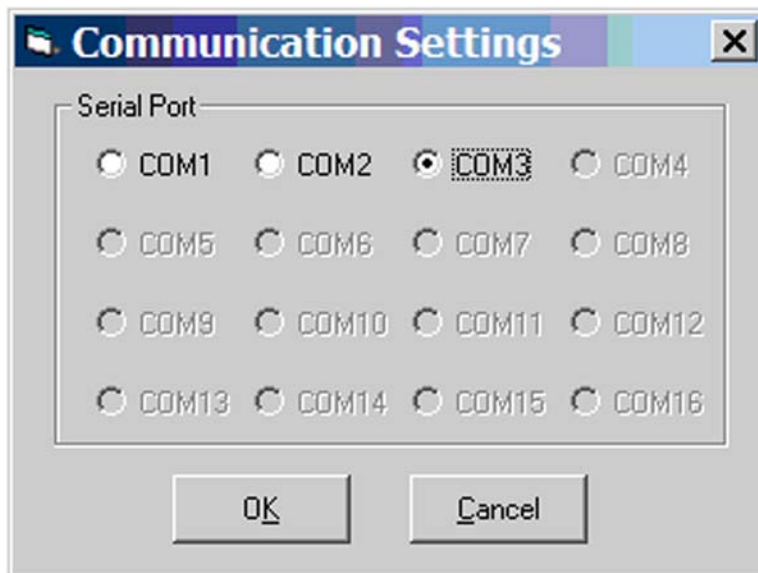

FIGURE 6
2. Select "Settings" and "COM Port Selection." This will open a "Communications Settings" window. Select the COM Port that was set in Installation. See FIGURE 6.